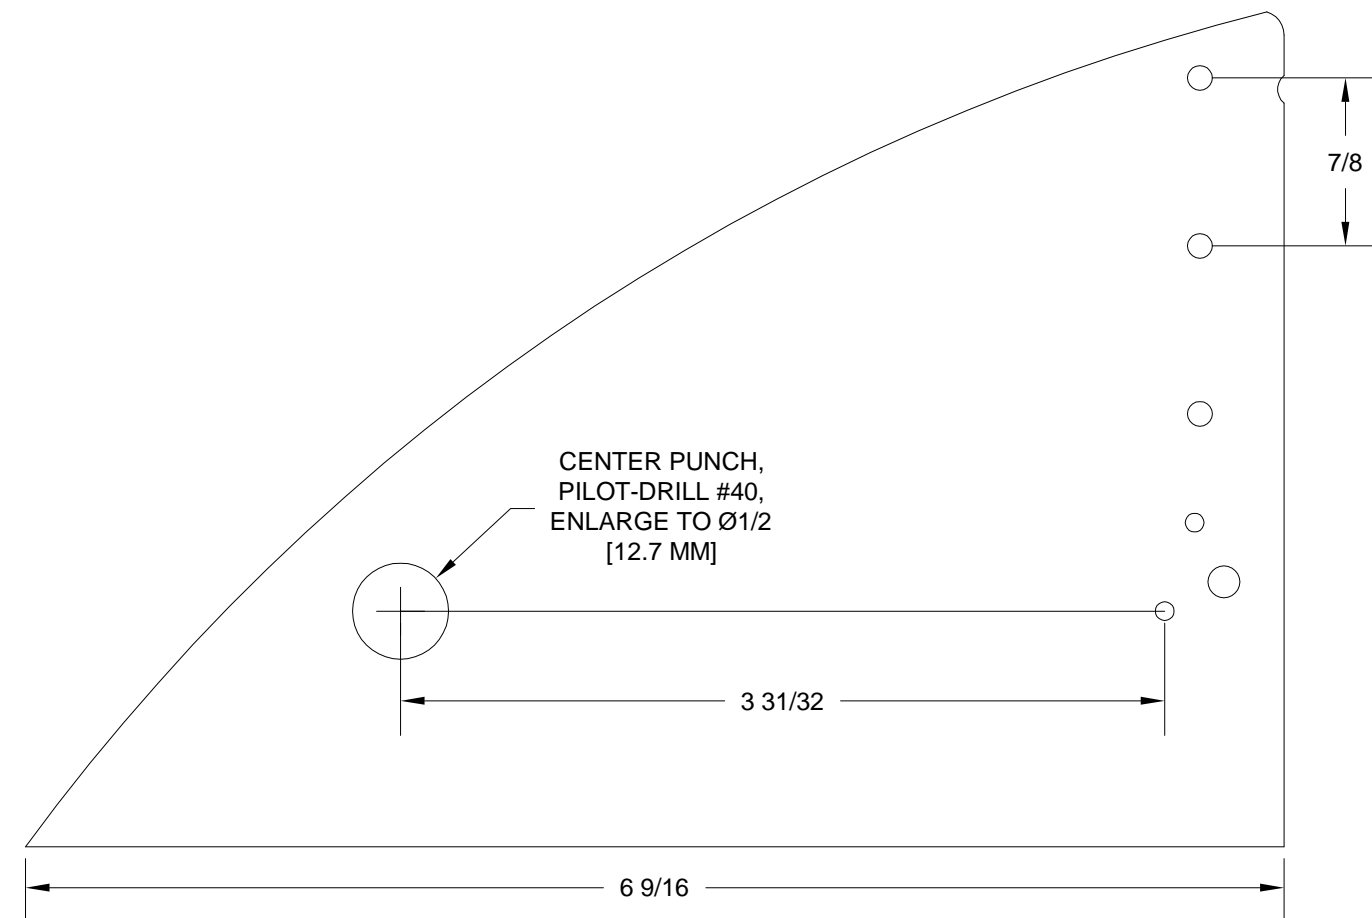

FIGURE 2: F-1207C-R BULKHEAD TEMPLATE
Step 4: Use the template shown in Figure 2 to drill the hole in the F-1207C-R Baggage Bulkhead